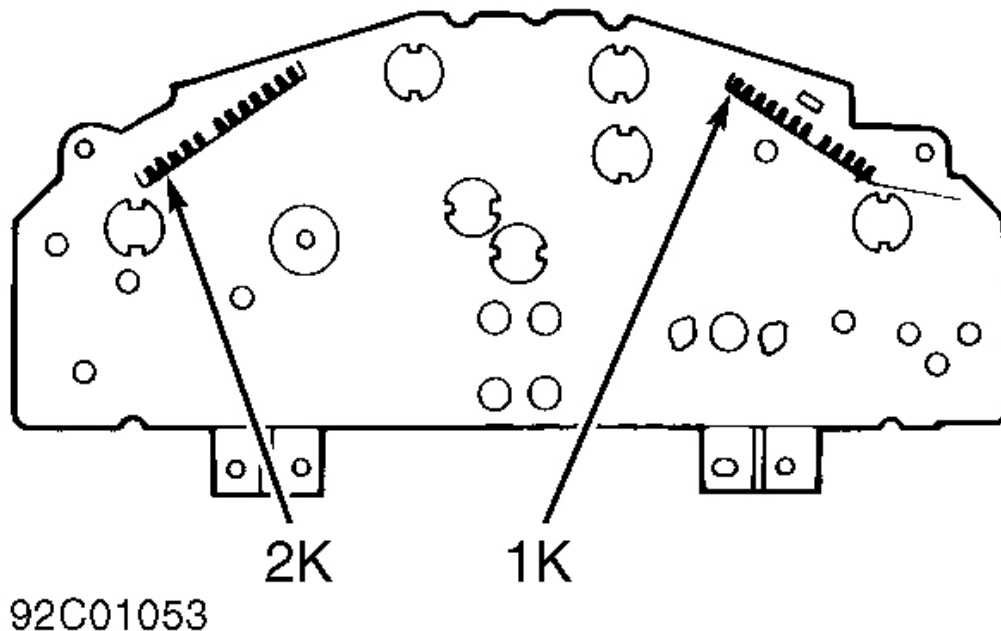

Fig. 14: Instrument Cluster Connector Terminals
1. Start engine, and observe ABS warning light. Light should illuminate for a few seconds. If light does not illuminate as described, remove instrument cluster. Connect 12 volts to terminal 2K (Black/Yellow wire) of instrument cluster. See **Fig. 14** . Using a jumper wire, connect terminal 1K (Blue/Yellow wire) of instrument cluster to ground. ABS warning light should illuminate. If light does not illuminate, check bulb. If bulb is okay, check METER fuse and wiring harness. Repair or replace if necessary.